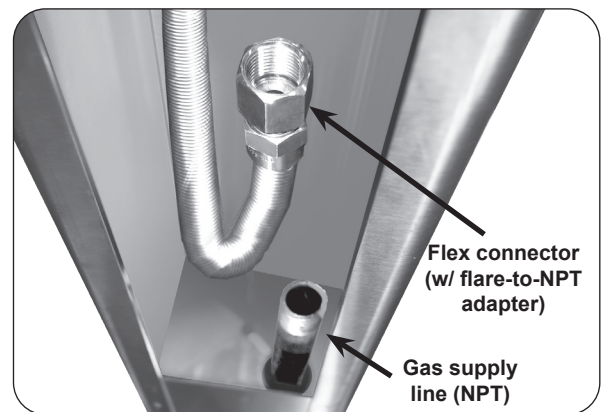

Fig. 26-2 Post interior detail
2. Verify that the gas supply line fits through the gas line clearance hole in the bottom of the post (see Fig. 26-2). The clearance hole is the larger of the two holes in the bottom of the post and is off center.